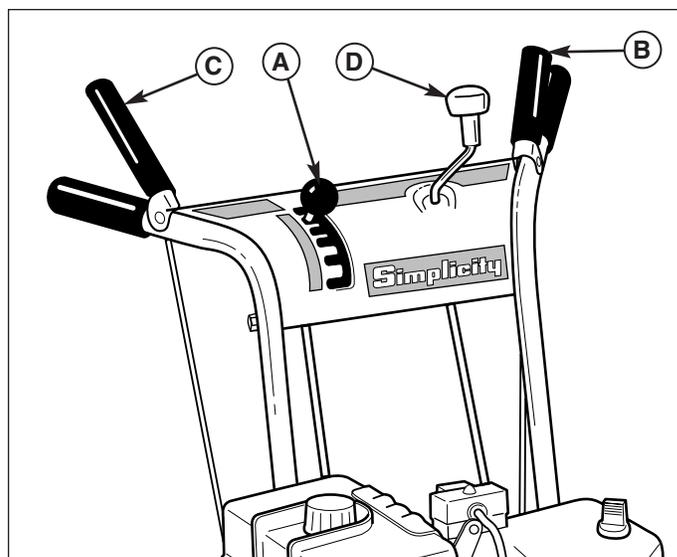

Figure 4. Operator's Control Position
The traction drive to each wheel can be locked and unlocked with the Traction Lock Pins (H, Figure 4) to permit the unit to “free-wheel,” allowing easier manual handling and transport of the snowthrower.
A. Speed Selector - This lever (A, Figures 4 & 5) is used to set the ground speed of the snowthrower.
B. Traction & Free Hand™ Control - This control engages the traction drive as the lever (B, Figures 4 & 5) is depressed, and disengages the traction drive when the lever is released. When both levers are depressed the Free Hand™ control is activated. This allows the auger control to be released yet the auger remains engaged until the traction Free Hand™ is released. **NOTE:** Changing ground speeds must only be done while the Drive Control is in the disengaged (fully released) position.
C. Auger Control - The Auger Control clutch lever (C Figures 4 & 5), engages the auger drive when the lever is depressed and disengages the auger drive when the lever is released (unless Traction Free Hand™ control is also depressed-see above).
D. Chute Direction Control - The Chute Direction Control (D, Figures 4 & 5), allows the discharge chute to be rotated to throw snow in the desired direction. Snow may be thrown at any angle from straight left, to straight forward, to straight right.
F. Chute Deflector Knob - This knob (F, Figures 4 & 5) allows the discharge Chute Deflector (E) to be locked in the desired tilt position.
6. Check the Drive Control (B, Figure 4), and Auger Control (C) for proper operation. If adjustment is required, see the Service Section for procedures.
7. Check the Chute Direction Control (D, Figure 4) for proper operation. The discharge chute should rotate freely in both directions. See the Service Section for adjustment procedures and troubleshooting.
8. Check the Chute Deflector (E, Figure 4) for proper operation. The deflector should pivot freely up and down when the Chute Deflector Knob is loosened. If adjustment is required, see the Service Section for procedures.
10. Check the Speed Selector (A, Figure 4) for smooth operation. The control must move freely into each speed position gate and remain in position when released. If the Speed Selector does not move freely into all forward and reverse speed positions, contact your local authorized dealer for assistance.